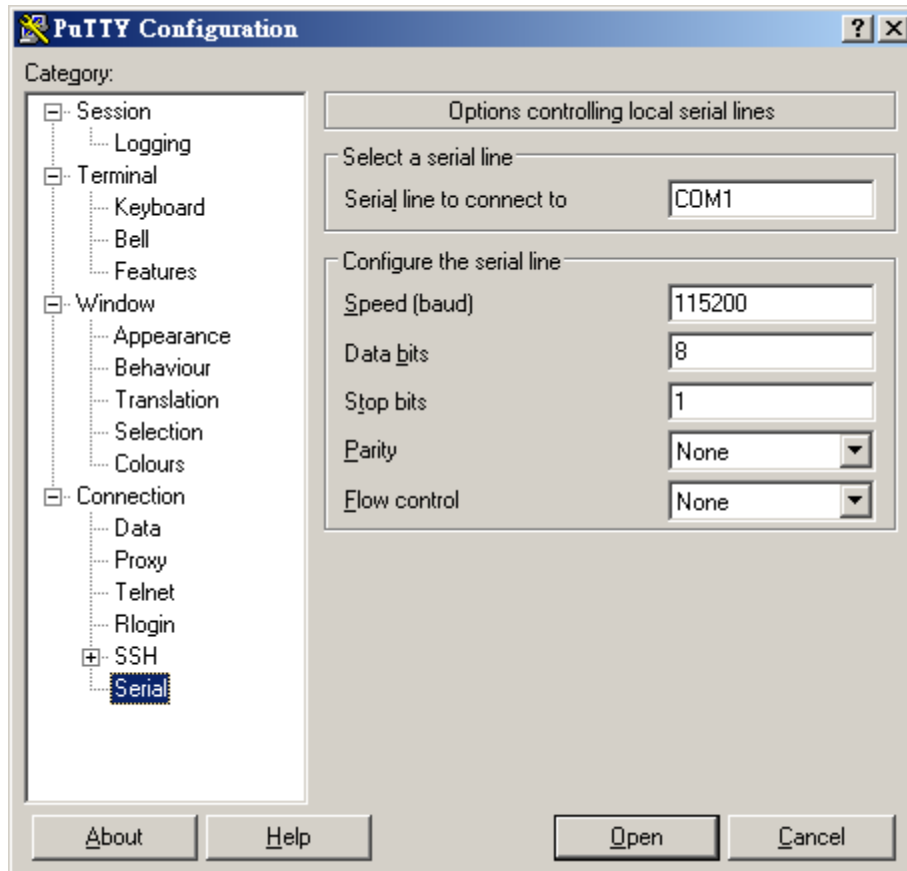

Figure 48: Settings
- Start PuTTY on your computer and make sure the “Options controlling local serial lines” are as in figure 48: